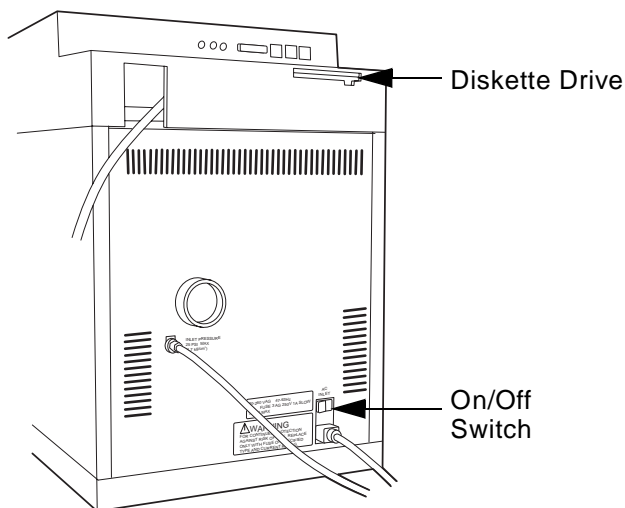

Figure 2-9 Instrument Cabinet Showing On/Off Switch
2. Turn the instrument on (the on/off switch is located at the left rear of the unit, Figure 2-9).
If the boot diskette is not inserted in the drive, you are prompted to do so. Turn off the power and insert the diskette in the drive (see Figure 2-9). Turn the instrument on.